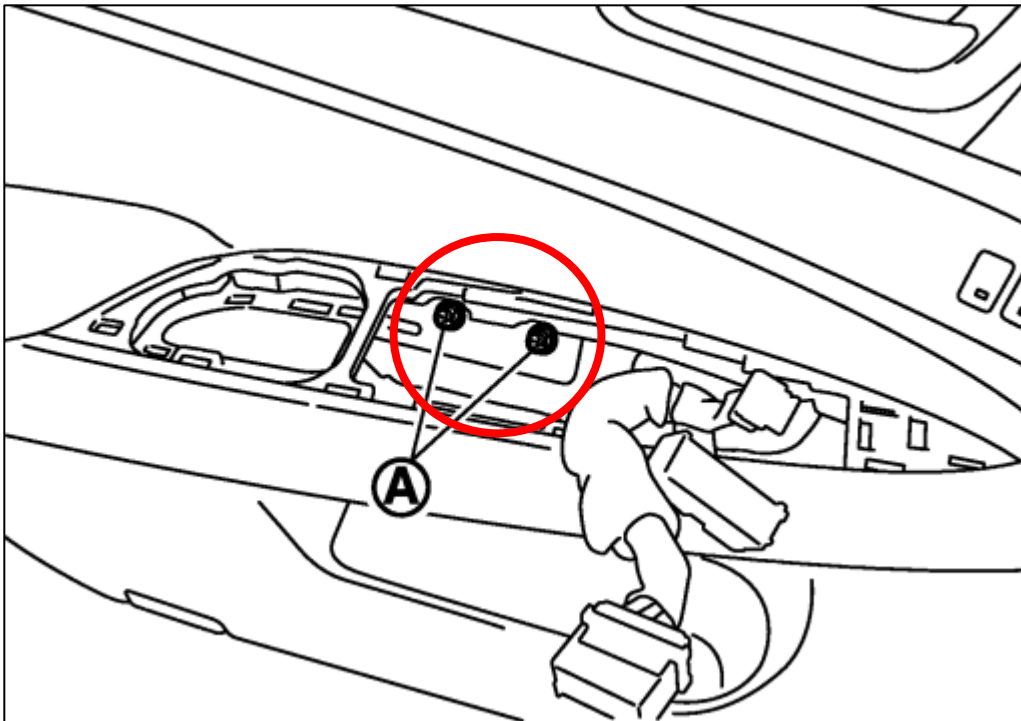

Figure 68
5. Remove the (2) two Bolts under the Door Control Panel. *Figure 68.*